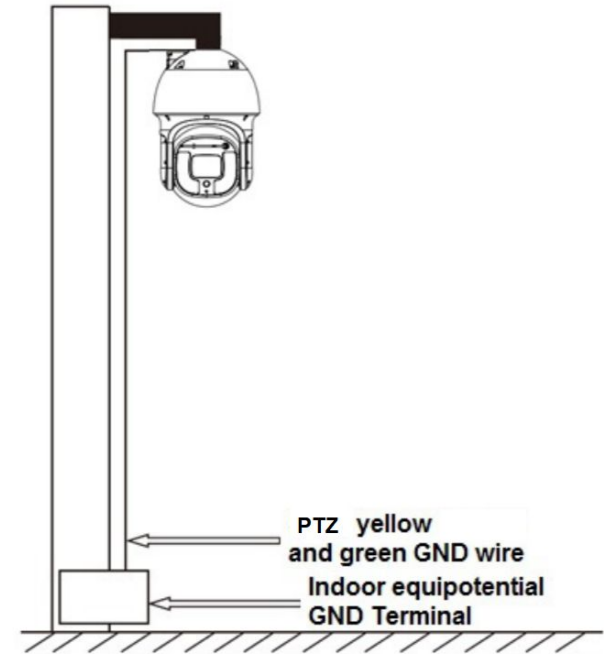

Figure 5-2
- For indoor usage, The yellow and green GND wire or GND screw of the speed dome should be reliably connected by several strands of copper wire with no less than  $25\text{mm}^2$  and indoor equipotential GND terminal. Please refer to Figure 5-2 for lightning proof installation mode.